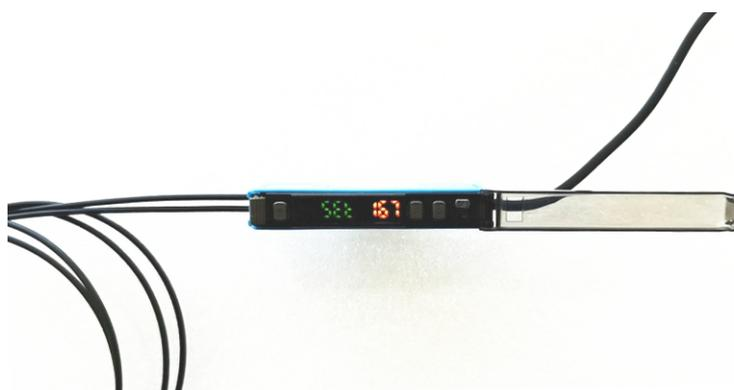

Fig 2.2.2
- (1). stick reflective stickers on proper position of the propeller(usually at the middle or the hub)
- (2). Infrared reflector points at the sticker and keep a distance around 3-5cm. Far distance will affect the accuracy.
- (3). Open the cover of the sensor, keep the focus on non-reflective surface(eg. dark parts on the engine), press “set”, then it displays “set” on the screen, as shown in Fig.2.2.2